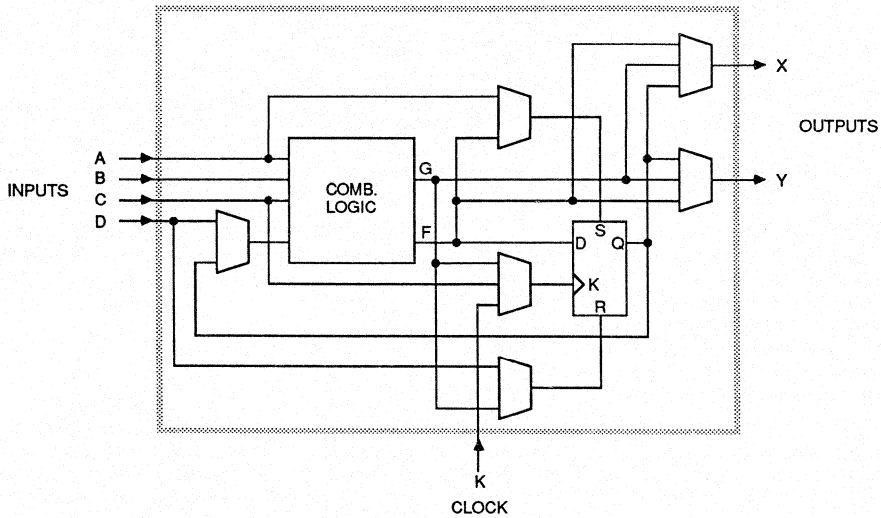

Figure 4. Configurable Logic Block
a combinatorial logic section, a storage element, and an internal routing and control section. Each CLB has four general-purpose inputs; A, B, C, and D; and a special clock input (K), which may be driven from the interconnect adjacent to the block. Each CLB also has two outputs, X and Y, which may drive interconnect networks. Figure 4 shows the resources of a Configurable Logic Block.
The two block outputs, X and Y, can be driven by either the combinatorial functions, F or G, or the storage element output Q (Figure 4). Selection of the outputs is completely interchangeable and may be made to optimize routing efficiencies of the networks interconnecting the logic blocks and I/O blocks.